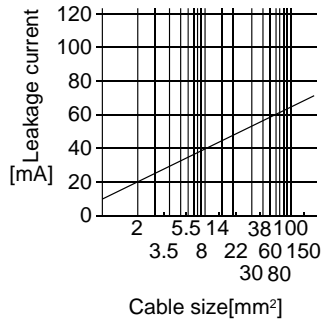

Fig. 11.1 Leakage current example (Ig1, Ig2) for CV cable run in metal conduit
- Ig1: Leakage current on the electric channel from the leakage current breaker to the input terminals of the driver (Found from Fig. 11.1.)
- Ig2: Leakage current on the electric channel from the output terminals of the driver to the servo motor (Found from Fig. 11.1.)